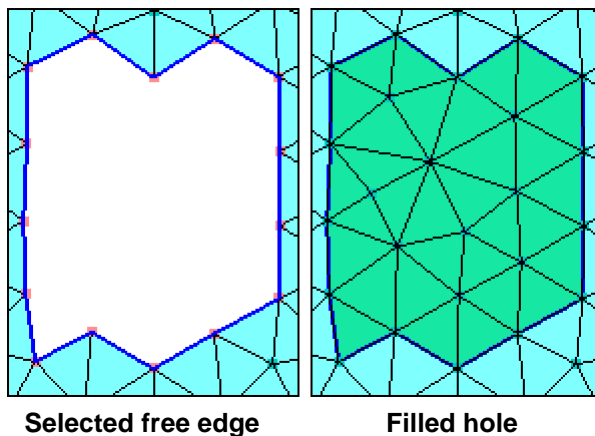

Figure 181: Filling a hole
4. Click **Apply**. Figure 181 shows a hole before and after being filled.